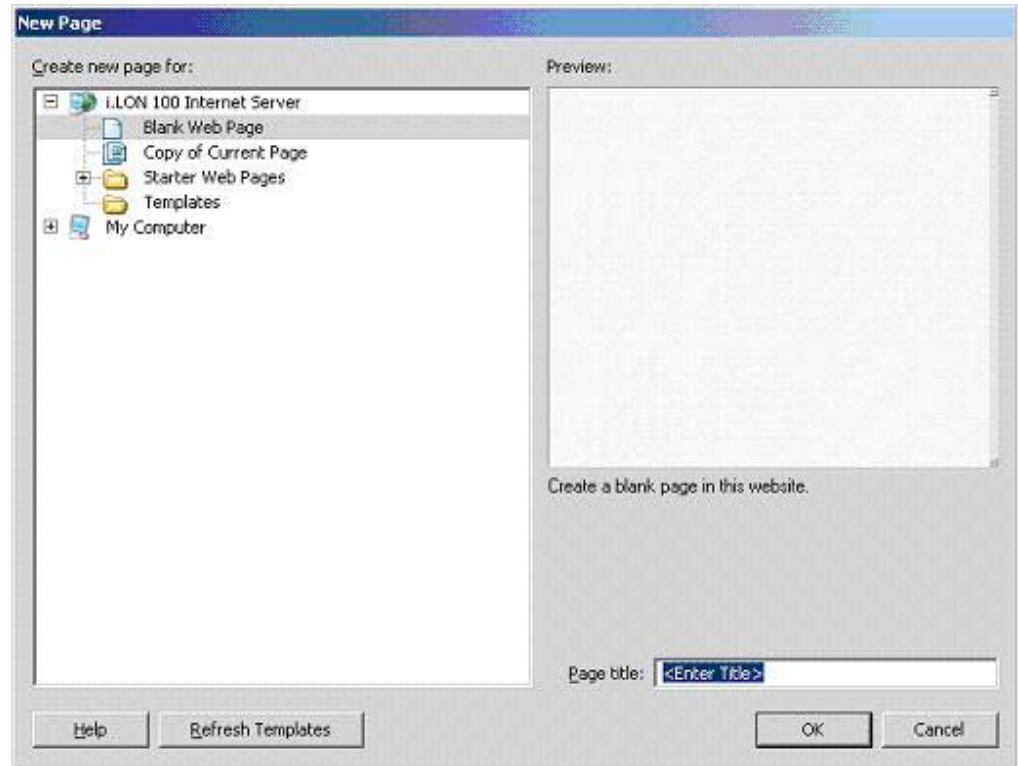

Figure 13.23 New Page Dialog
1. Click the **New Page** button on the Contribute toolbar. The window shown in Figure 13.23 opens.